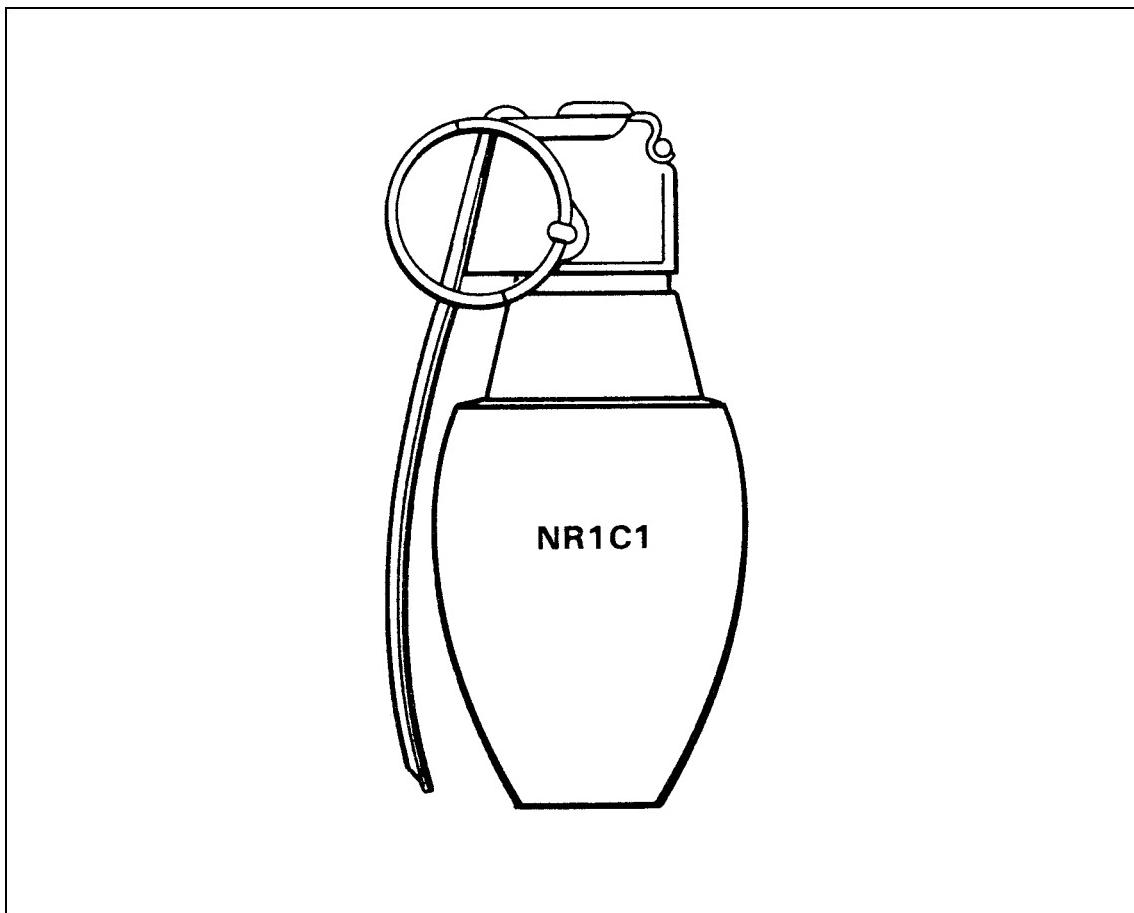

Figure F-4. NR1C1 fragmentation hand grenade.
- Type: Fragmentation. (Figure F-4)